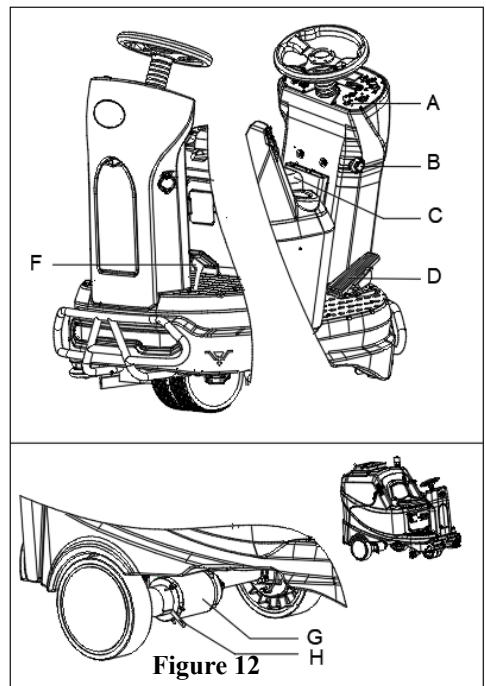

Figure 12
1. Turn the ignition key (A, Figure 12) to “I”, sit on the seat (C).
2. Depress the accelerate pedal (D) slightly then release it to check if the machine can be steered forward and stopped.
3. To ensure safety, confirm the machine can be stopped immediately when pressing the emergency button (B). Rotate the emergency button to reset it.
4. Depress the mechanical brake pedal (F) quickly to check if the machine can be stopped immediately.
The brake of drive motor is released when the motor works normally, it locks when the motor is off. In some special cases, such as machine packing/unpacking, machine fault etc., the machine may need to be pushed. On drive motor (G Figure 12) push down the brake handle (H Figure 12), the machine brake is released, and the machine can be moved. After completion, push up the handle back, so the machine can work